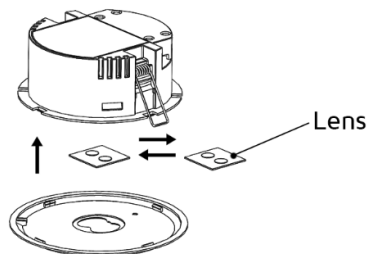

Fig. 2
Step 1: Screw the surface mounting kit to the wall, and proceed as figure 2,3,4 and 5.